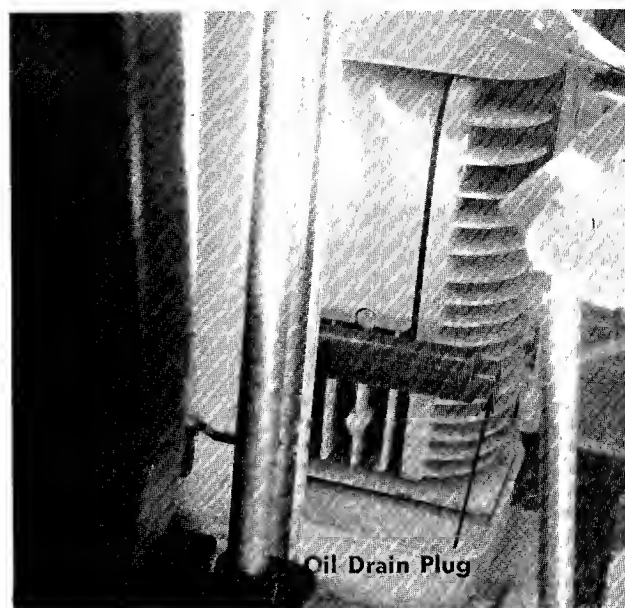

FIGURE 17. OIL DRAIN
- Step 1. With the machine on level ground, place a suitable metal container under the oil drain plug located on the front of the engine. See figure 17.